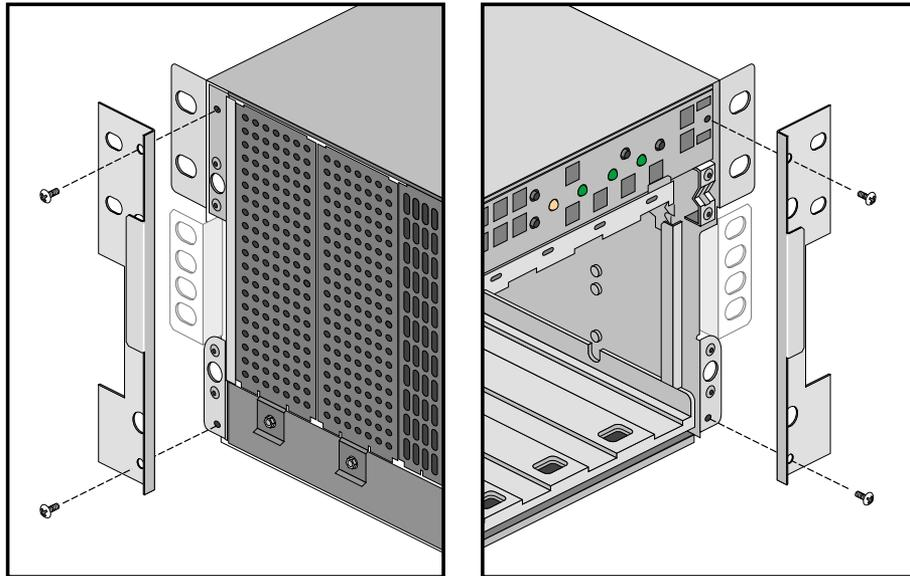

Figure 9 Handles Aligned with the Chassis
2. As shown in Figure 9, align the inside top and bottom holes of the handles with the top and bottom holes of the chassis.